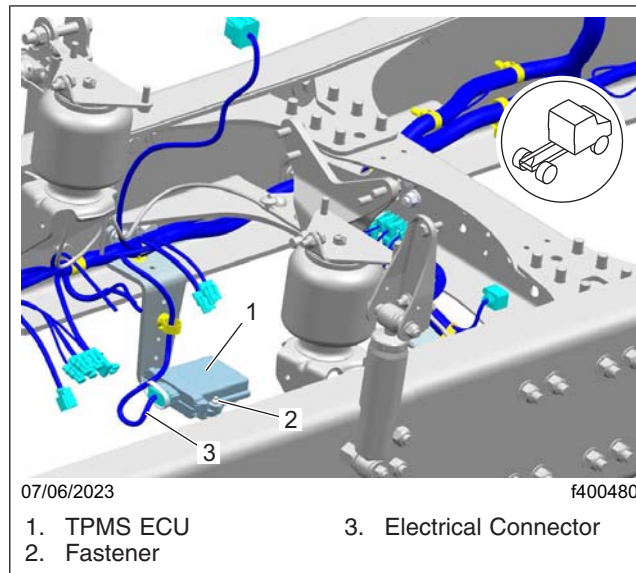

Fig. 1, TPMS ECU
3. Locate the TPMS ECU, and disconnect the electrical connector from the TPMS ECU. See Fig. 1.